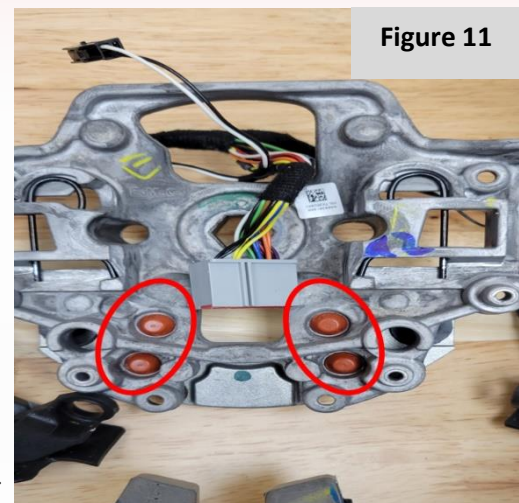

Figure 11
14. Flip the steering wheel back face up. One at a time and using a screwdriver, push the orange rubber grommets holding the steering wheel dampener onto the core off of the OEM steering wheel. The location of these grommets can be seen in **Figure 11**.
Using an Allen wrench or pin punch, reinstall the steering wheel dampener into its corresponding holes (**Figure 11**). Using a pea sized ball of silicon grease on each grommet, press softly into the backside of the divots in the grommets until they are seated. Applying too much force may cause damage to the grommets.